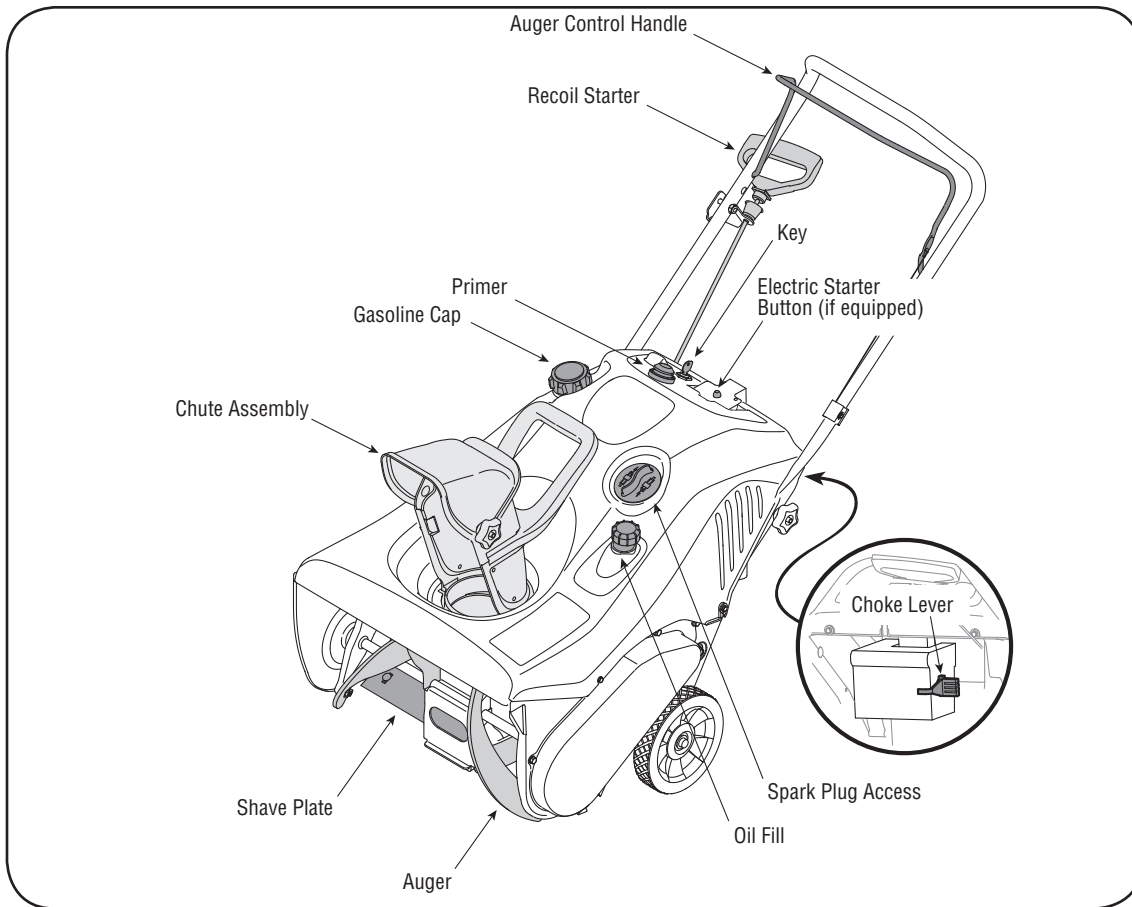

Figure 4
2. Now follow the instructions below as it pertains to your unit. See Figure 4 for location of controls